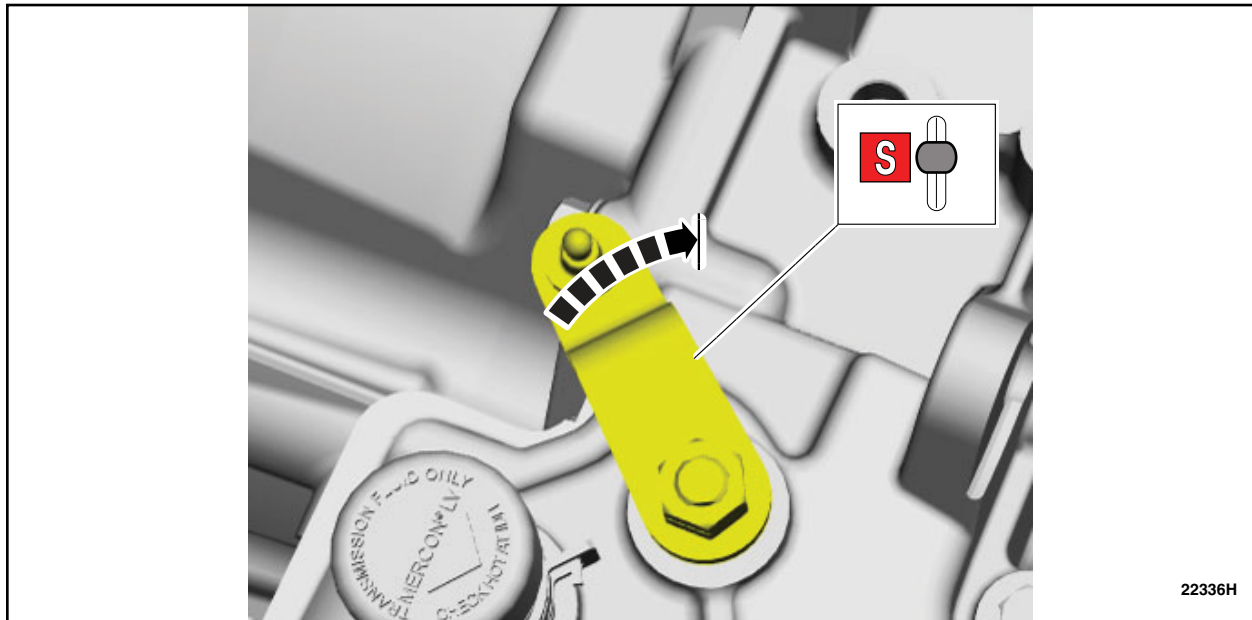

FIGURE 11
12. Rotate the manual control lever clockwise until it stops. See Figure 11.